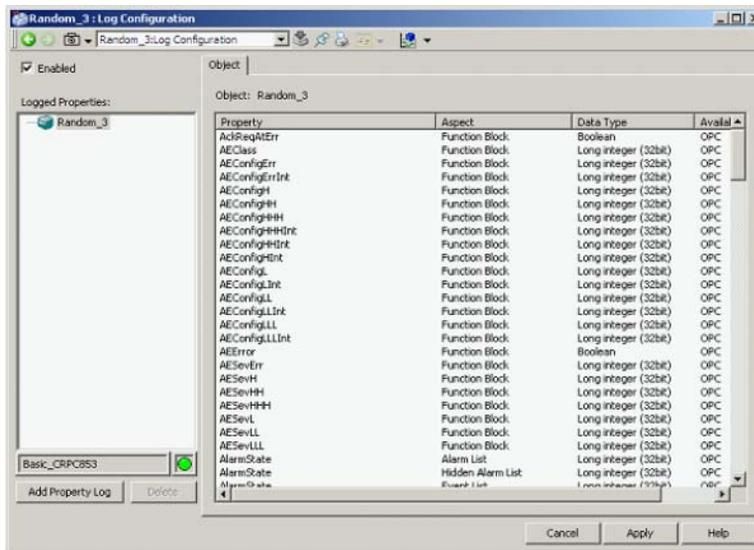

Figure 204. 800xA History Log Configuration window
6. Click **Log Configuration** aspect. The **Log Configuration** window appears as shown in Figure 204.